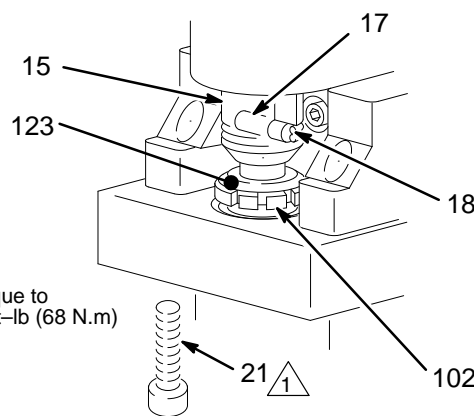

Fig. 18
- a. Remove the pump connecting rod pin (17). See Fig. 18, page 22.
11. **Break in the brushes.** Operate the sprayer for at least one hour with no load. Install the pump connecting rod pin. See Fig. 18, page 22.
Installing the pump (See Fig. 18 and 19.)
Be sure the retaining spring (18) is firmly in the groove all the way around, to prevent the pin (17) from working loose due to vibration. See Fig. 18.